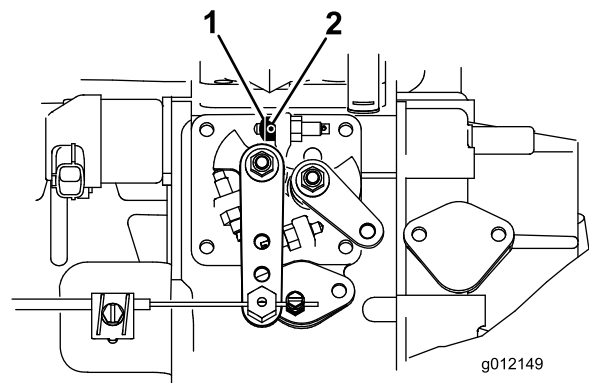

Figure 6
1. Loosen the set screw on the throttle stop (Figure 6).
2. Slide the throttle stop onto the high-idle stop screw (Figure 6). The chamfered end of the throttle stop is to be positioned outward.